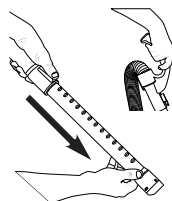

Fig. 2
2. Extend the wand by pushing the button forward and pulling the smaller wand out of the larger wand (Fig. 2).